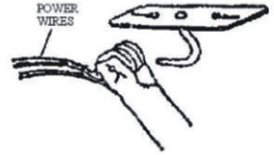

FIGURE 3
1. Being careful not to damage the cables, lift the fan and grab the rubber cylinder at an angle of about 30 ° above the hook, as shown in Figure 3.